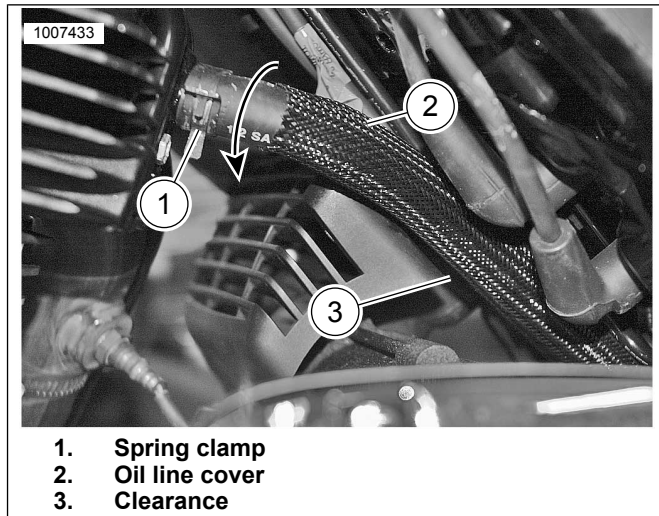

Figure 3. Rear Oil Line Cover
- a. See Figure 3. Reposition plug wire(s), if needed.
- b. Release upper oil line hose spring clamp (1) and remove upper oil line hose only from head.
- c. Remove oil line hose spring clamp (1) from hose.
- d. Insert cover over rear oil line hose (2). Position cover 25.4 mm (1 in) from upper spring clamp on rear oil line hose.
- f. With spring clamp loose, rotate hose for maximum clearance between fan housing and oil line hose cover (3).